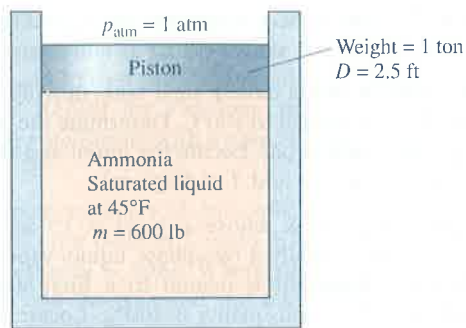

Fig. P3.30
- 3.30 As shown in Fig. P3.30, a cylinder fitted with a piston is filled with 600 lb of saturated liquid ammonia at 45°F . The piston weighs 1 ton and has a diameter of 2.5 ft. What is the volume occupied by the ammonia, in ft^3 ? Ignoring friction, is it necessary to provide mechanical attachments, such as stops, to hold the piston in place? Explain.